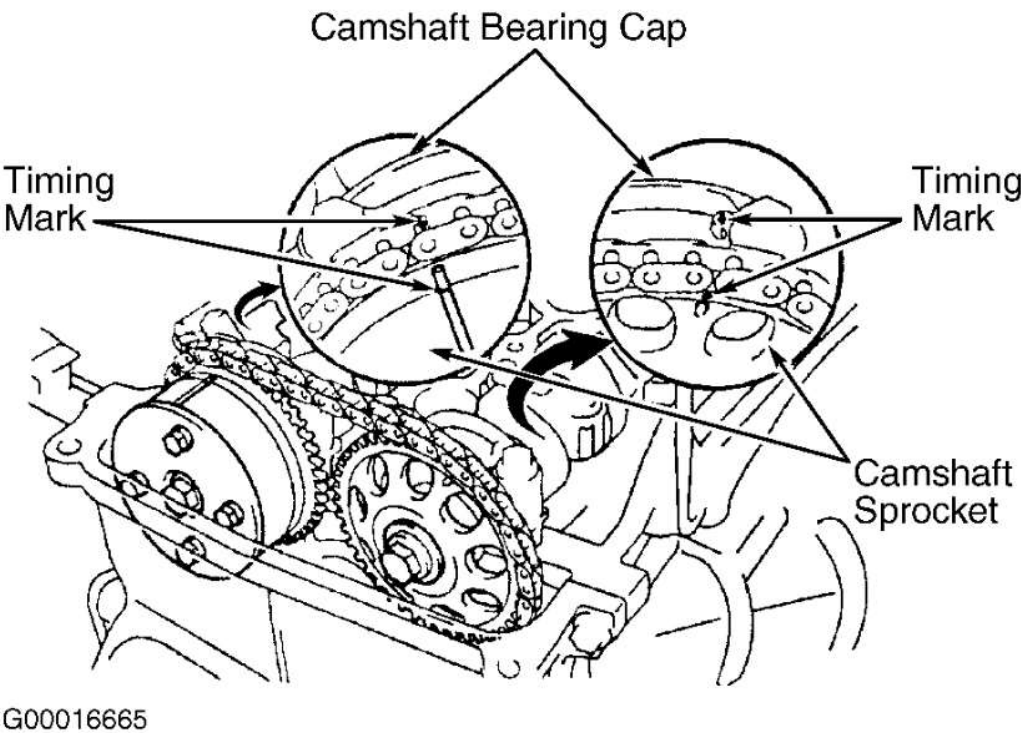

Fig. 7: Checking Timing Mark Alignment (Camry Solara & RAV4)
3. Ensure timing marks on camshaft sprockets are aligned with timing marks on camshaft bearing caps. See **Fig. 7**. If timing marks are not as specified, rotate crankshaft clockwise one full revolution (360 degrees) and realign crankshaft pulley timing mark (groove) with "0" mark on timing chain cover and then recheck timing mark alignment.
9. Install replacement valve lifter, camshafts and timing chain. Recheck valve clearance. To ensure proper valve timing after reinstalling camshafts and timing chain, check that timing marks on camshaft sprockets are aligned with timing marks on camshaft bearing caps when crankshaft pulley timing mark (groove) is aligned with "0" mark on timing chain cover and cylinder No. 1 is at TDC on compression stroke. See **Fig. 7** .